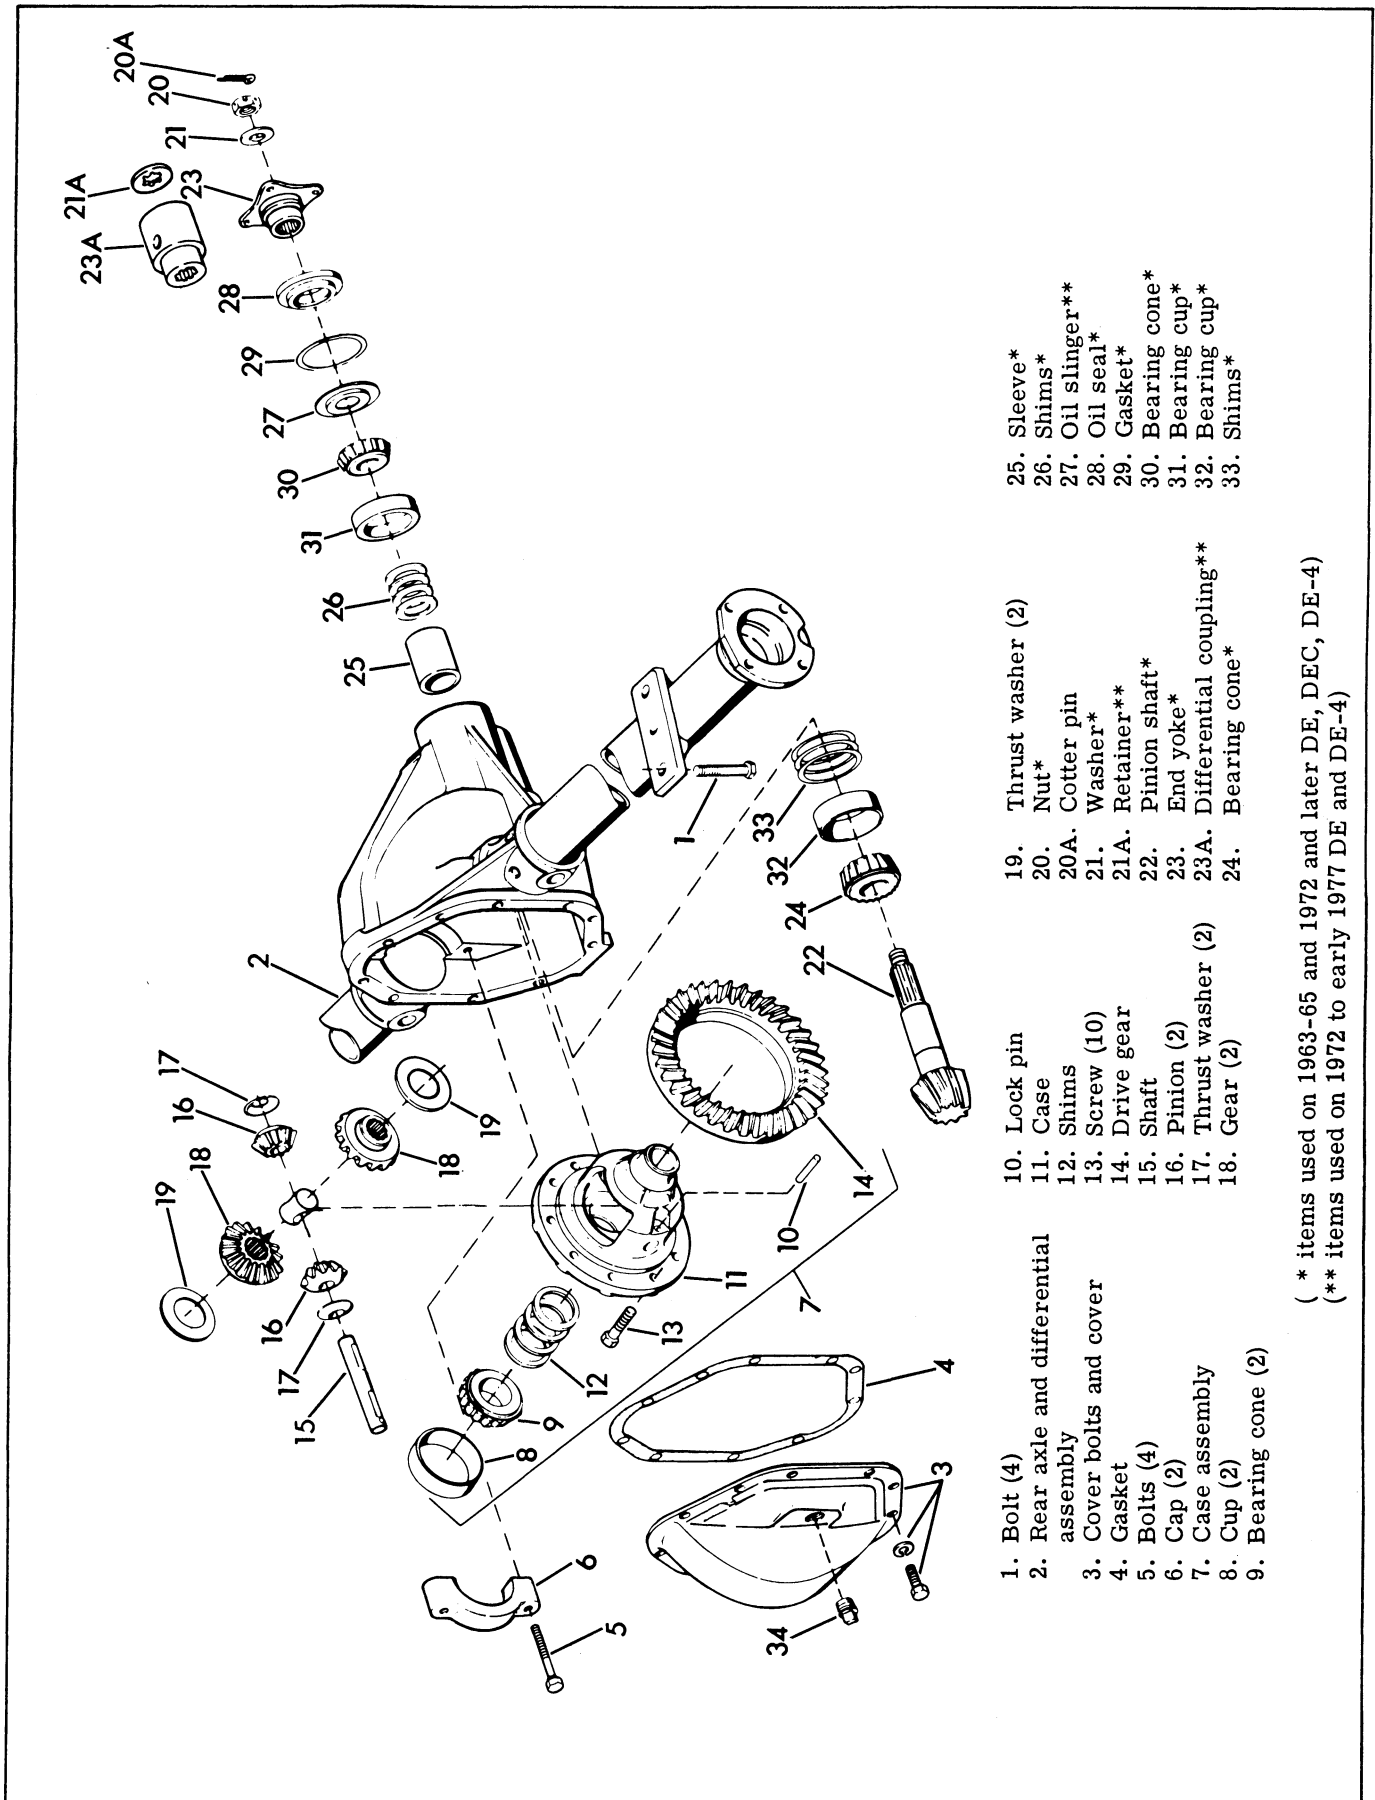
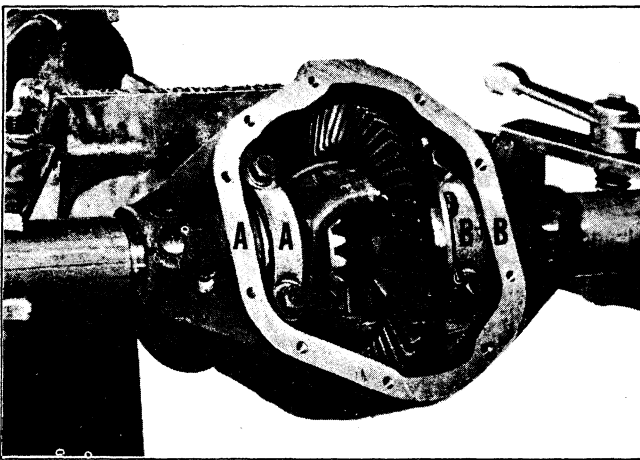
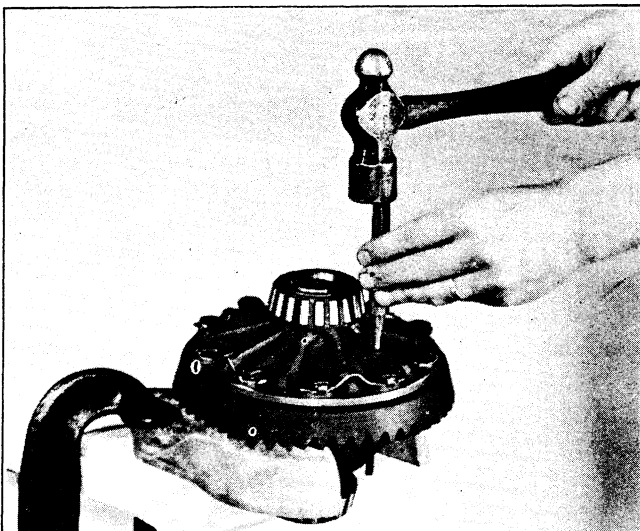
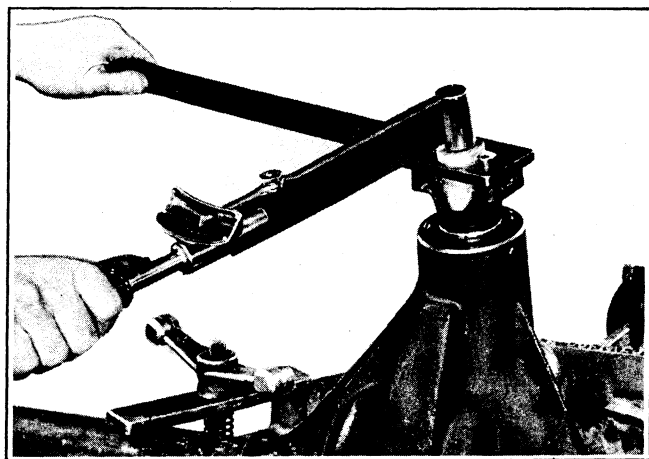

Figure 2-4. Dana Differential Assembly - Exploded View - 1963-1975 Models DE, DE-4, DEF and DEC
Figure 2-5. Carrier and Bearing Cap Matching Marks
Figure 2-6. Removing Lock Pin
Figure 2-18. Tightening Nuts with Torque Wrench and Socket
### REMOVING REAR AXLE AND DIFFERENTIAL ASSEMBLY (Fig. 2-4)
### DISASSEMBLING DIFFERENTIAL CASE AND DRIVE PINION (Fig. 2-4)
4. Remove differential bearing cap bolts (5) and caps (6), (Figure 2-4). Note matching marks on carrier and differential bearing caps. Refer to Figure 2-5.
5. Pry differential case assembly (7) loose with large screwdriver or bar and lift from carrier. NOTE: Pry out differential case assembly as straight up as possible using leverage against differential and carrier to prevent damage.
6. Remove cups (8) from differential case bearings (9). NOTE: If bearing cones and cups are not worn or damaged and are to be reassembled, make certain that each mating cup and cone are paired together.
7. Drive out lock pin (10) securing differential pinion mate shaft to case (11). See Figure 2-6.
16. Install oil slinger (27), gasket (29), and seal (28).
17. Install end yoke (23) or coupling (23A), washer (21) or retainer (21A), and nut (20). Finish tightening nut with torque wrench and socket to 50 to 70 ft.-lbs. See Figure 2-18. Where applicable, bend one side of retainer (21A) against flat on nut (20), using a punch through hole in side of coupling 23A, Figure 2-4.
#### INSTALLING REAR AXLE AND DIFFERENTIAL ASSEMBLY (Fig. 2-4)